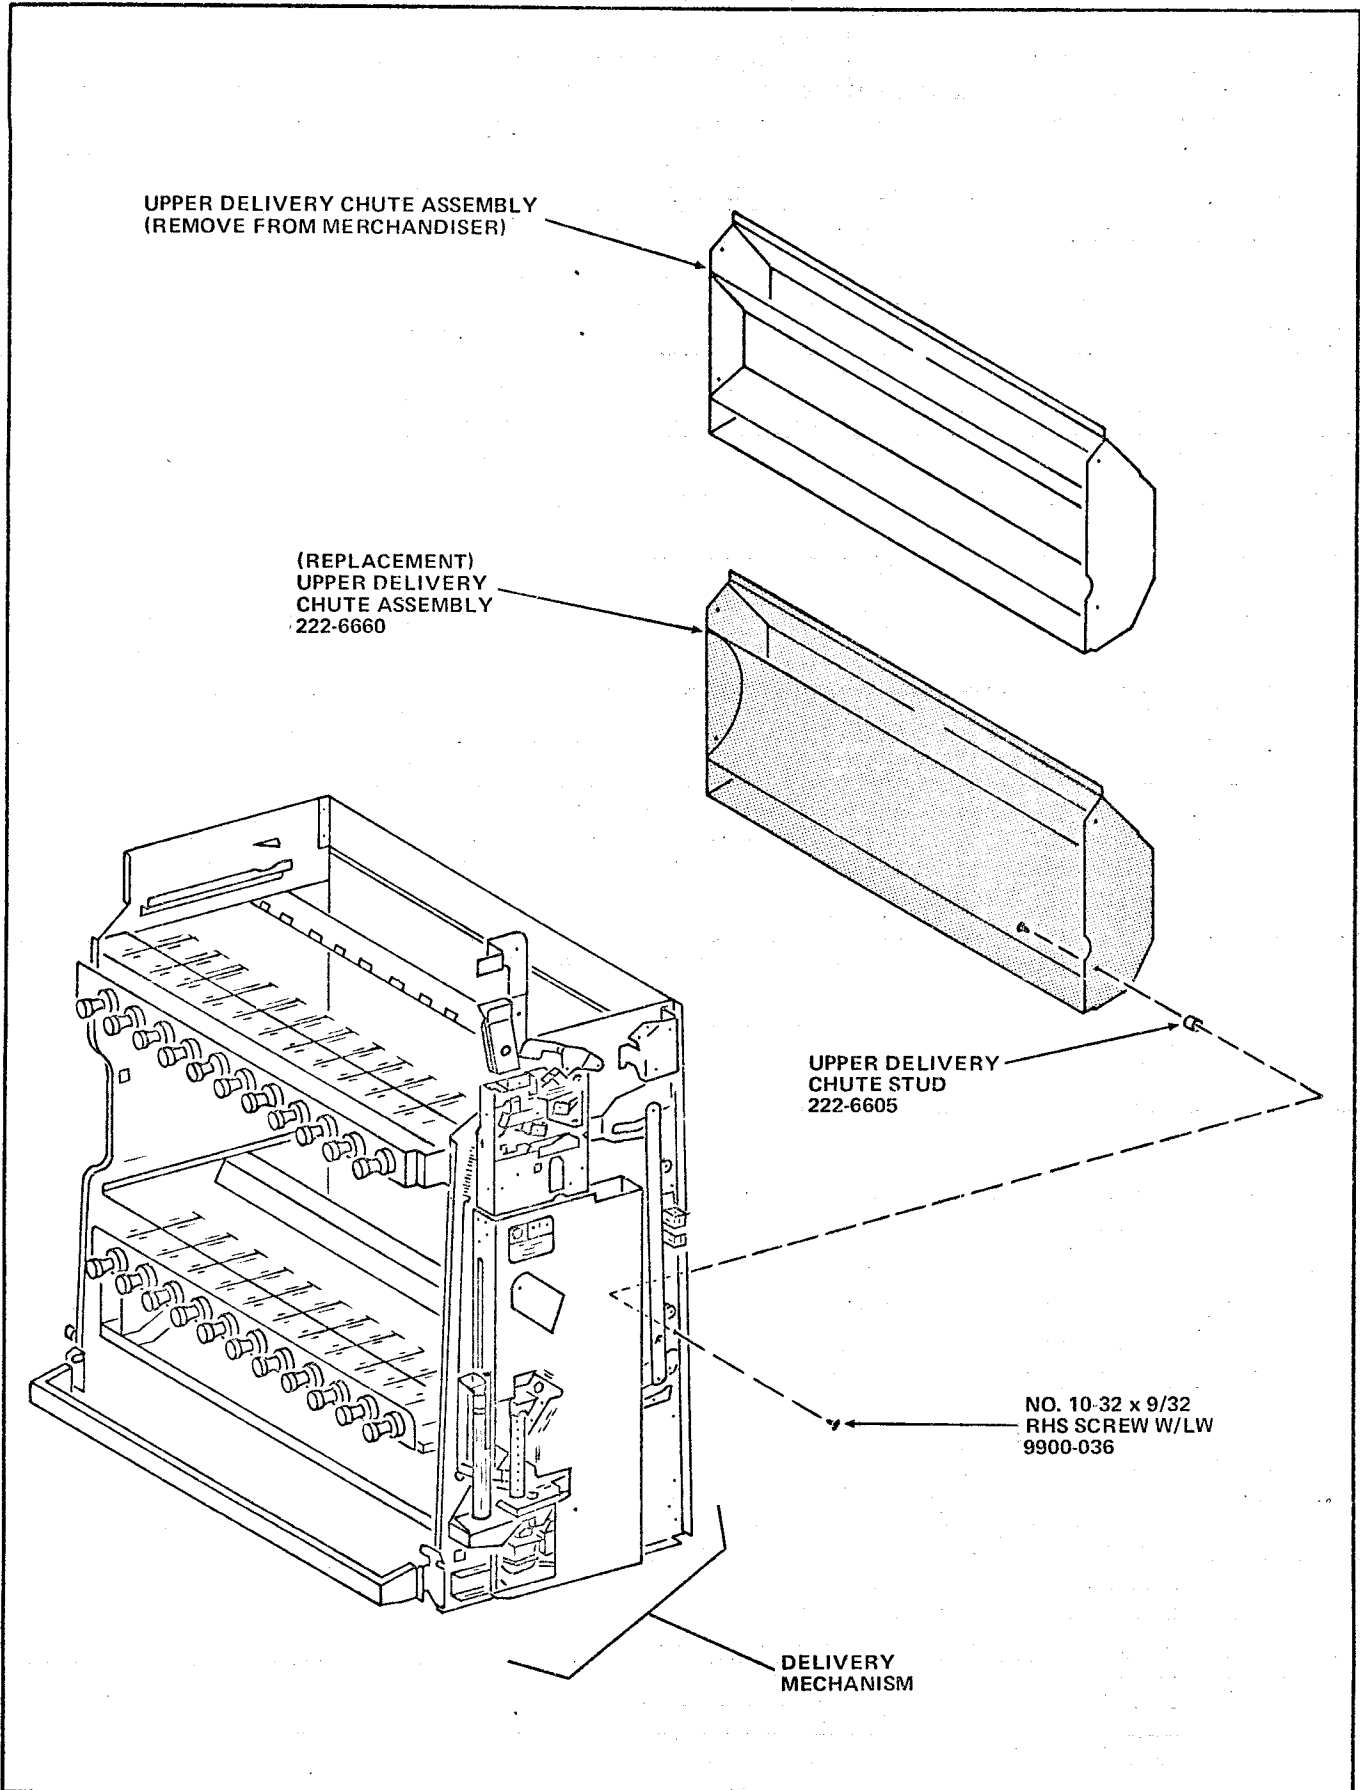

FIGURE 3
10. Remove the Upper Delivery Chute Assembly from the rear of the Delivery Mechanism by removing four No.10-32 x 9/32 Round Head Screws with Lockwashers. See Figure 3.
11. Remove four No.10-32 x 9/32 Round Head Screws and four Upper Delivery Chute Studs from the Upper Delivery Chute Assembly. See Figure 3.
7. Install the replacement Upper Delivery Chute Assembly, Part Number 222-6660, on the rear of the Delivery Mechanism and attach with eight No.10-32 x 9/32 Round Head Screws with Lockwashers, Part Number 9900-036 and four Upper Delivery Chute Studs, Part Number 222-6605, all parts included in the Kit. See Figure 3.